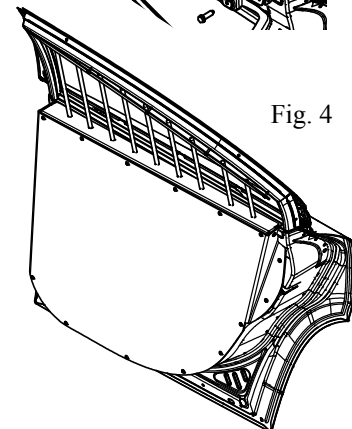

Fig. 4
1. Slide the ABS door panel over the window armor, align front to back for best fit. (See Fig. 4)